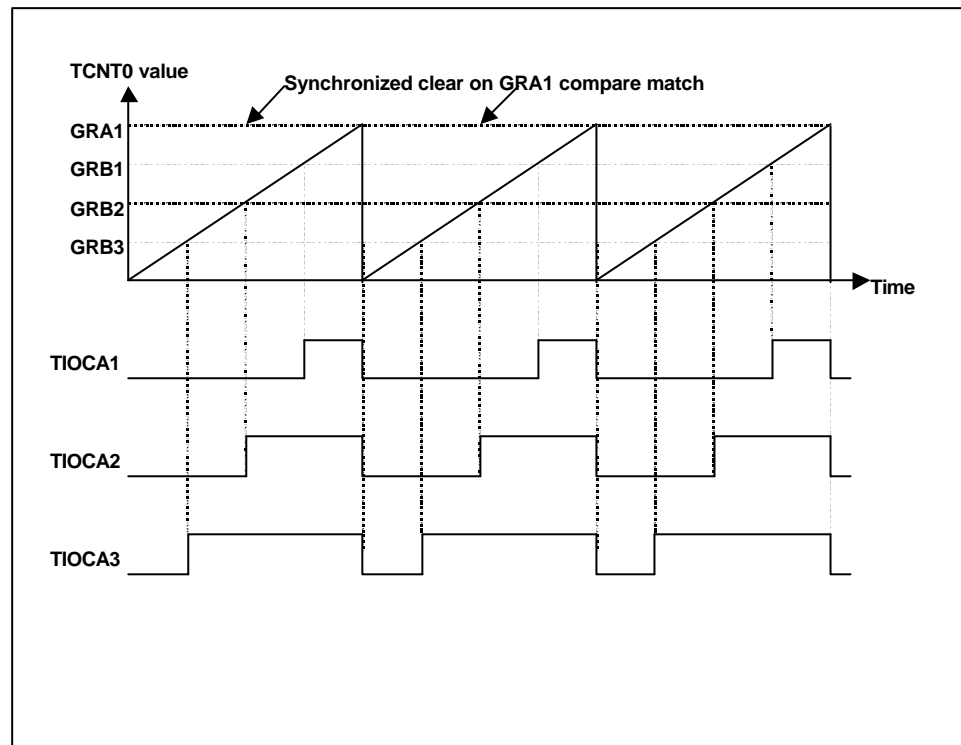

**Figure 8.9 PWM Mode Operation Example 1**
**Figure 8.9** illustrates PWM mode operations. When the PWM mode is set, the TIOCA pin becomes the output pin. Output is 1 when the TCNT matches the GRA, and 0 when TCNT matches the GRB. The TCNT can be cleared by compare match with either GRA or GRB. This can be used in both free-running and synchronized operation.